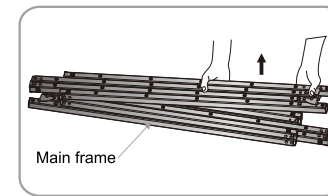

Figure 3
2. Lay the main frame on the floor with the fabric rivet facing up. Stretch the tuning joints as the arrow indicates ( Figure 3 - 4 ).